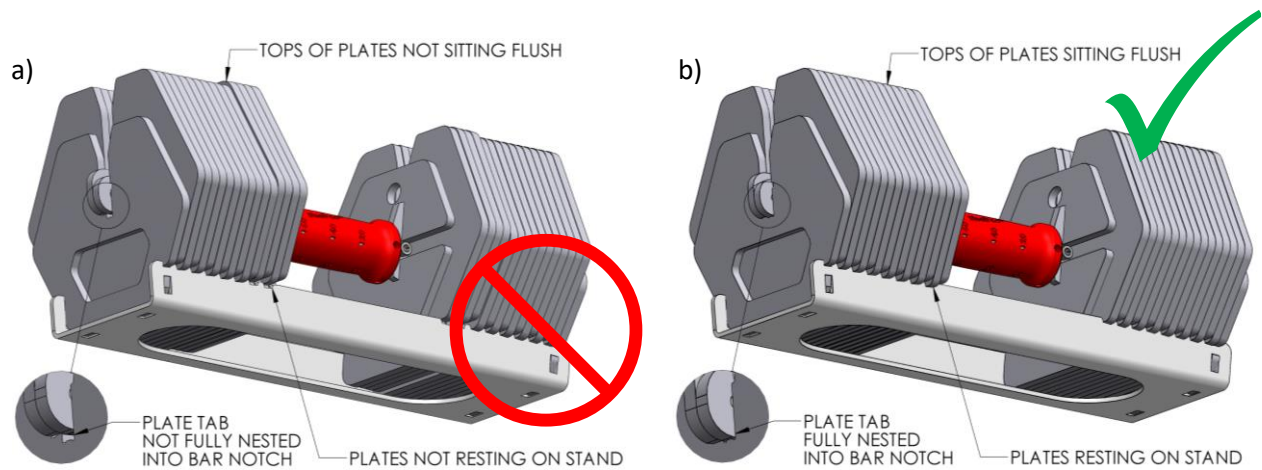

Figure 4: a) Dumbbell not properly seated in stand, b) dumbbell properly seated in stand.
2. Rotate the hand grip in quarter-turn increments until the desired weight is reached. DO NOT attempt to rotate the grip if it does not rotate easily, as this could result in damage to the grip. If the grip does not rotate easily, check to ensure that the bar is properly seated in the base (see Figure 4), confirm that you're not trying to turn past the minimum or maximum weight setting, and confirm that the lock pin has been removed. Refer to "Troubleshooting" if this does not resolve the problem.
If the dumbbell does not drop into the base properly (see Figure 4), check the following:
- Ensure that the bar is properly seated in the base (see Figure 4).